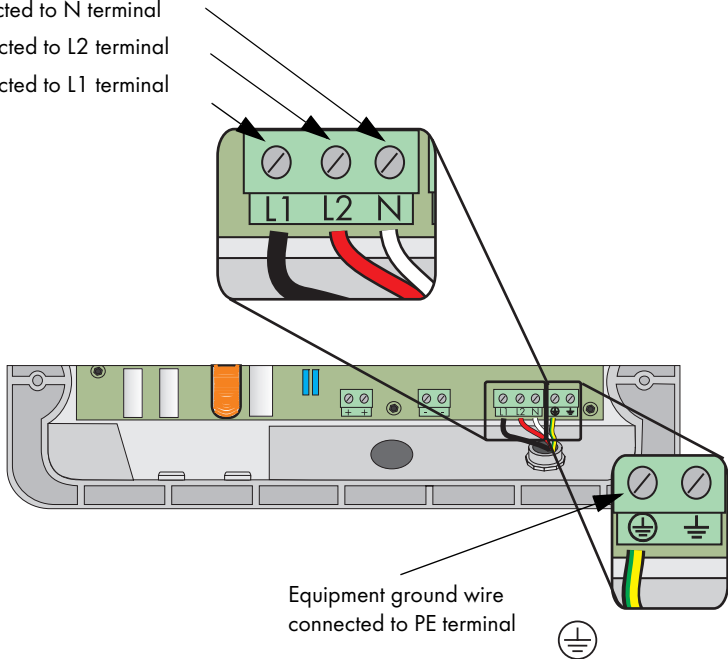

Figure 5-4: AC Connection Terminals
7. Refer to Figure 5-4 on page 47 for steps 8 through 10.